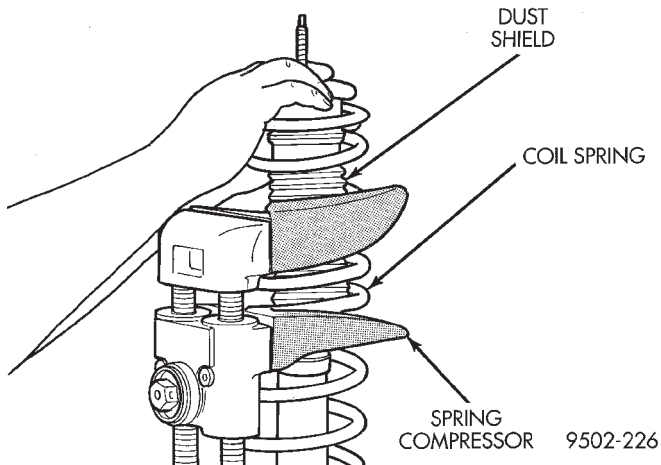

Fig. 59 Shock Absorber Dust Shield
(10) Remove the dust shield (Fig. 59) from the shock absorber.
(6) Install dust shield (Fig. 59) on rod of shock absorber.